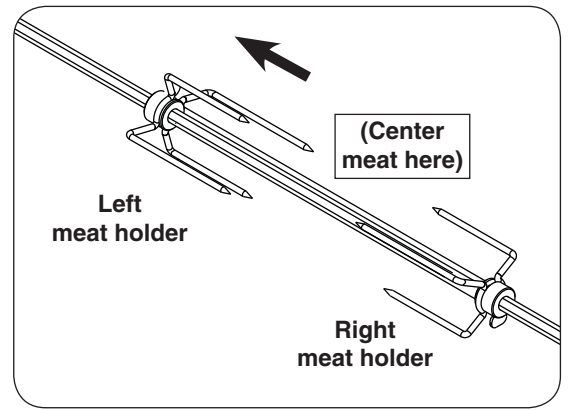

Fig. 5-1 Meat holder & meat orientation
2. Slide the left meat holder onto the rod (and tighten), the meat onto the rod and into the holder, followed by the right meat holder onto the rod and into the meat as shown in Fig. 5-1. Tighten the right meat holder. Be sure the meat is centered and balanced as well as possible.